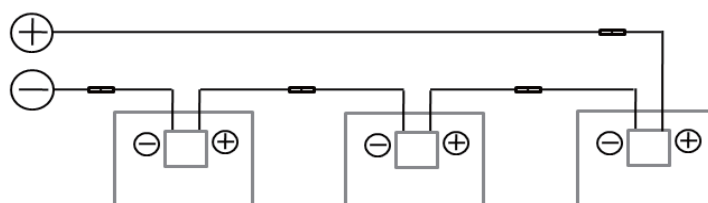
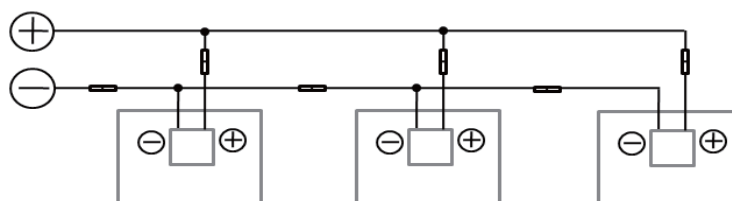
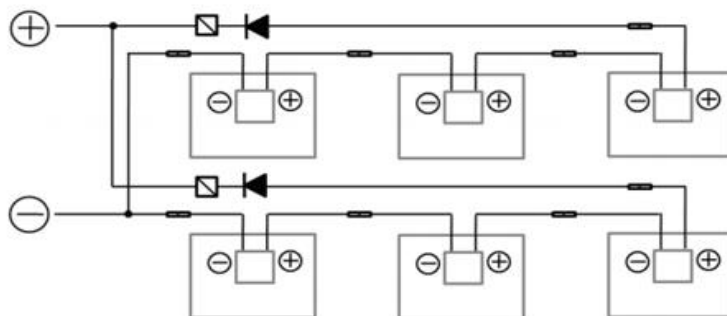

Fig. 10-1 Series Connection
Fig.10-2 Parallel Connection
Fig.10-3 Parallel-series Connection
- The Direct Current (DC) generated by the PV system can be converted to Alternating Current (AC) and connected to the public power grid. Different regions may have different policies, laws and regulations to stipulate the installation and grid-connection requirements of PV systems. Therefore, during the design, installation and grid-connection of PV system, please comply with the local policies, laws and regulations.
- In order to ensure the normal running of the system, when connecting modules or loads, please ensure that the polarity of the cable connection is correct. If the modules are incorrectly connected, the bypass diodes (within the modules) and junction boxes may be damaged. PV modules can be connected in series (Fig. 10-1), in parallel (Fig.10-2) and in series-parallel (Fig. 10-3). When connected in series and parallel, blocking diodes are used between the PV modules. The number of serial or parallel connections shall be reasonably designed according to the system configuration. Also note that if the number of parallel connections ≥ 2 , there must be an over-current protection device on each string assembly and bypass are used for over current protection.